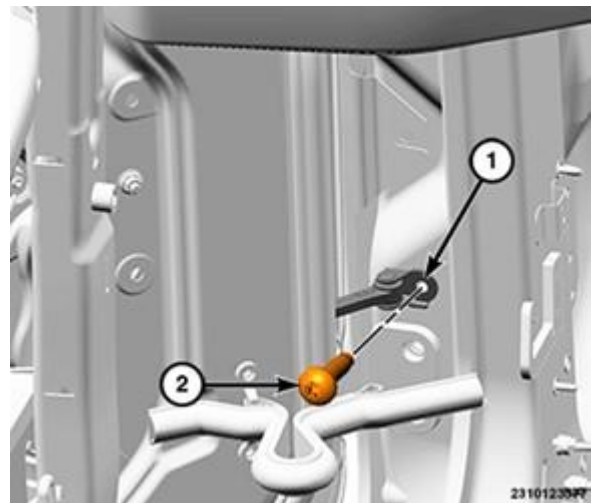

Figure 21 – Door Check Bolt
38. Remove the bolt (2) securing the door check (1) (Figure 21).